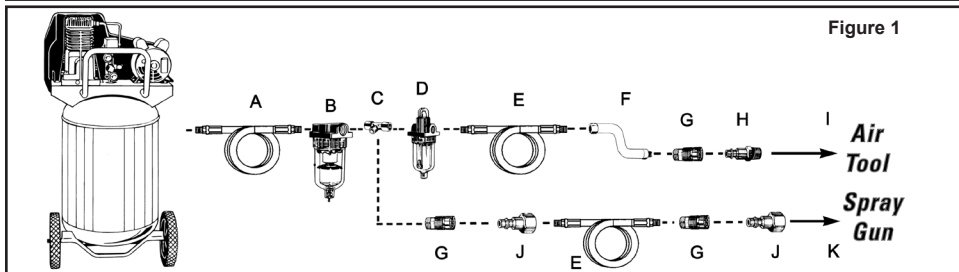

Figure 1
- Connect the tool to the air hose quick coupler. **NOTE: It is recommended that a whip hose with a swivel (P012-0079SP - not included) be used to prevent twisting, kinking, and excessive wear to the air hose (see figure 1 for recommended connections).**
- Adjust the regulator control knob (B) to the desired variable speed.